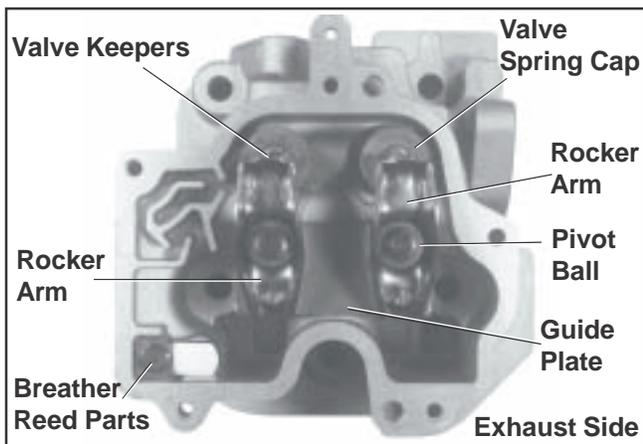
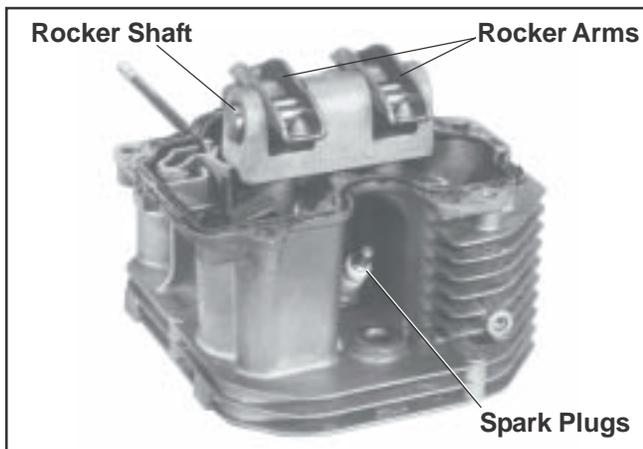

Figure 9-32. Head with Individually Mounted Pivots/Rocker Arm.
Figure 9-33. Removing Spark Plug and Rocker Arms.
Two basic types of heads are used. One type utilizes a rocker bridge arrangement as shown in Figure 9-33. The second type uses individually mounted rocker arm assemblies, with or without a guide plate, rather than a bridge. This type is shown in Figure 9-32. Components are unique to each style of head. Follow the appropriate procedure based upon the type of head configuration involved.
1. Remove the spark plug. See Figure 9-33.
3. **Rocker Bridge Equipped Heads** - Figure 9-33.
Heads with Individually Mounted Pivots/ Rocker Arms - Figure 9-32.
- a. Compress the valve springs using a valve spring compressor. See Figure 9-32.